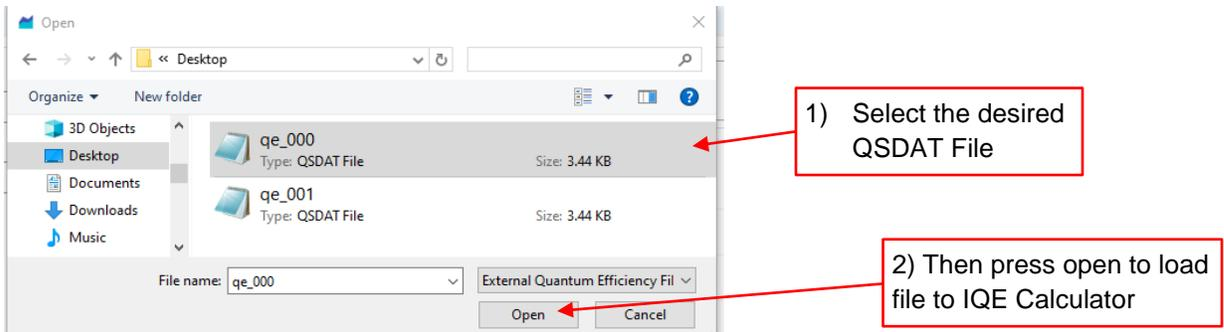

Figure 40: Selecting EQE or Sample Reflectance File for IQE calculator
4. To select the EQE measurement you would like to use for the IQE calculation, click on the folder icon in the "EQE File" section, see Figure 39. Then select the EQE file that you wish to use for the IQE calculation, see Figure 40.
5. To select the sample reflectance measurement you would like to use for the IQE calculation, click on the folder icon in the “*Sample Reflectance File*” section, see Figure 39. Then select the sample reflectance file that you wish to use for the IQE calculation, see Figure 40.